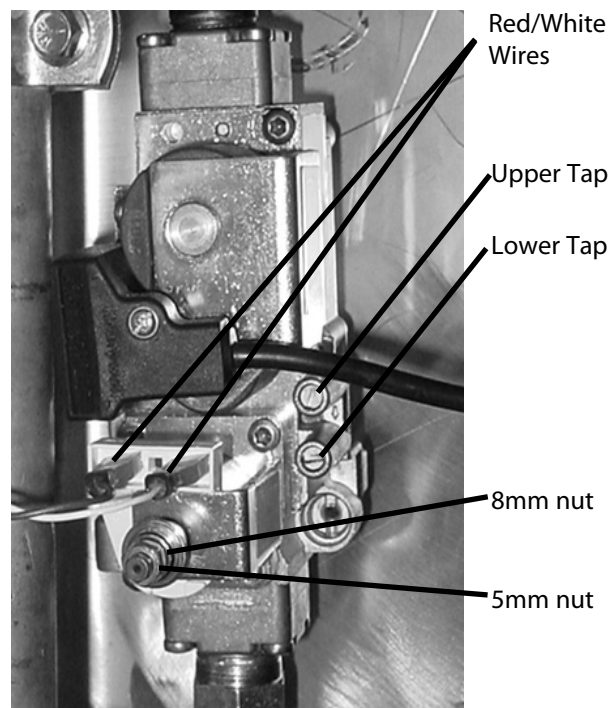

Figure 4: Gas Valve
4. Attach the digital manometer to the upper tap of the gas valve (Figure 4). This tap will show the incoming pressure before the internal regulator of the gas valve.
4. During warmup (both fan speeds are at 65% and the oven is at 100% flame), attach the manometer to the lower tap of the gas valve (Figure 4).
6. If not, use an 8mm nut driver to adjust the 8mm nut (Figure 4) until the manometer reads 3.5" W.C. (88.9 mmH₂O, 8.71 mb), unless operating I_{2L} gas, as noted above (turn clockwise to increase the pressure, counter-clockwise to decrease the pressure).
1. Remove either the red or white wire (Figure 4).
2. Attach the electric manometer to the lower tap of the gas valve (Figure 4).
4. During warmup (both fan speeds are at 65% and the oven is at 100% flame), attach the digital manometer to the upper tap of the gas valve (Figure 4).